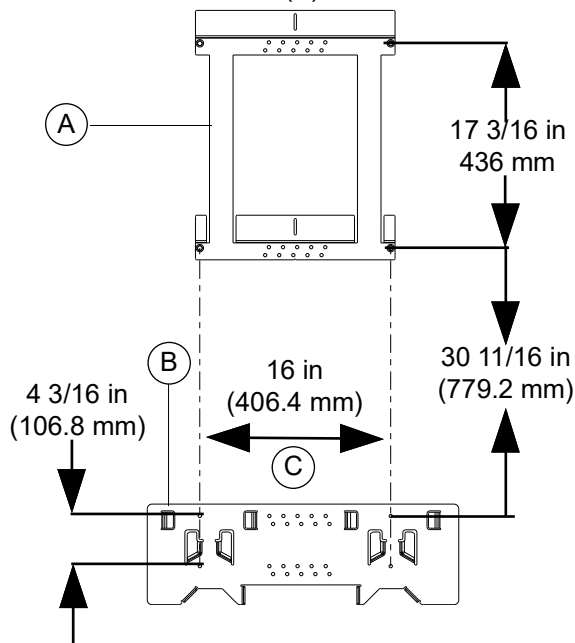

Figure 4-7. Foot Bracket and Wall Bracket Alignment
1. See **Figure 4-7**. Project a vertical line up from the top mounting fastener in the foot bracket (B).
2. Place a mark on the projected line 30 11/16 in (779.2 mm) above the top mounting fastener of the foot bracket (B).
3. Insert first fastener in the lower hole of the wall bracket (A) at the mark placed in step 2, leaving it partially loose until bracket is in alignment and plumb.
4. Level wall bracket (A) and double check alignment. Double check measurement of $30 \frac{11}{16}$ in (779.2 mm) is the same for the other lower mounting fastener in wall bracket (A). Make sure opposite wall bracket (A) fastener is in alignment for 16 in (40.64 cm) on center studs.
6. Double check wall bracket (A) fasteners are in alignment with foot bracket (B) fasteners and wall bracket (A) is still plumb.
7. Install a minimum of two fasteners in the top holes of the wall bracket (A).